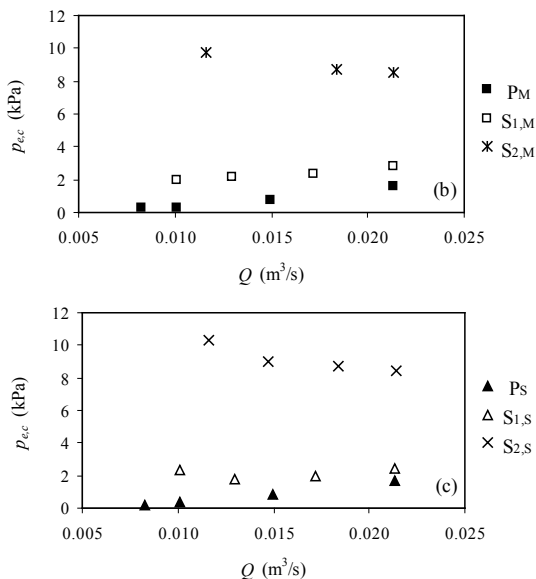
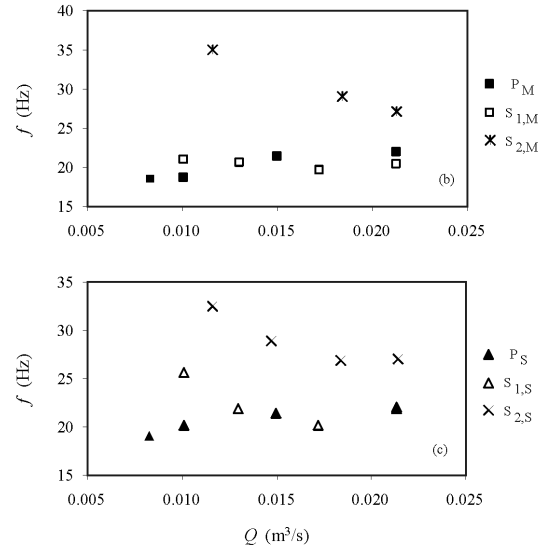

Figure 6.
Figure 7.
- In page 159, the symbols are defined in Figure 6 (b,c) and Figure 7 (b,c) by mistake as ( $P_L$ ;  $S_{1,L}$ ;  $S_{2,L}$ ). However, the symbols in Figure (6b, 7b) are related to [ $P_M$ ;  $S_{1,M}$ ;  $S_{2,M}$ ] data while the symbols in Figure (6c, 7c) are related to [ $P_S$ ;  $S_{1,S}$  and  $S_{2,S}$ ] data